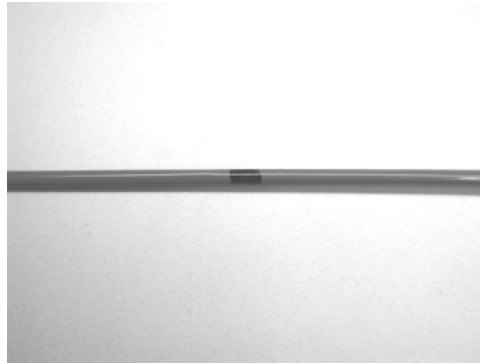

Figure 3 – Mark the section of buffer tube to be removed
**6.2** Mark the length of the ribbon buffer tube to be removed (Figure 3).